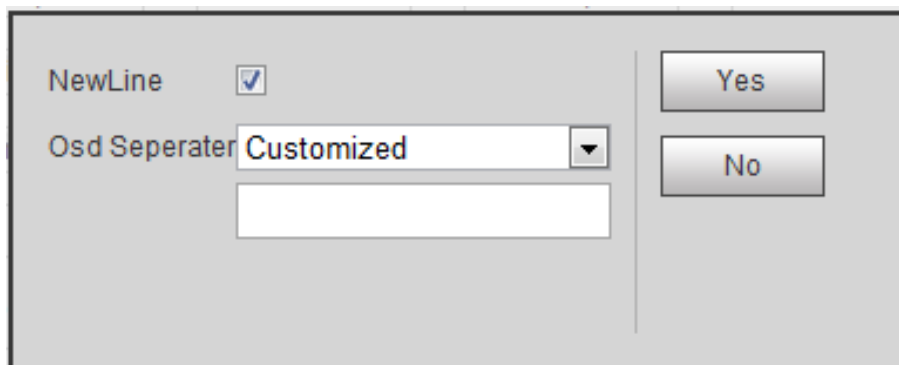

Figure 6-37
Step 5. Click More, a box pops up, see Figure 6-37. You can select auto change, and set OSD isolator.